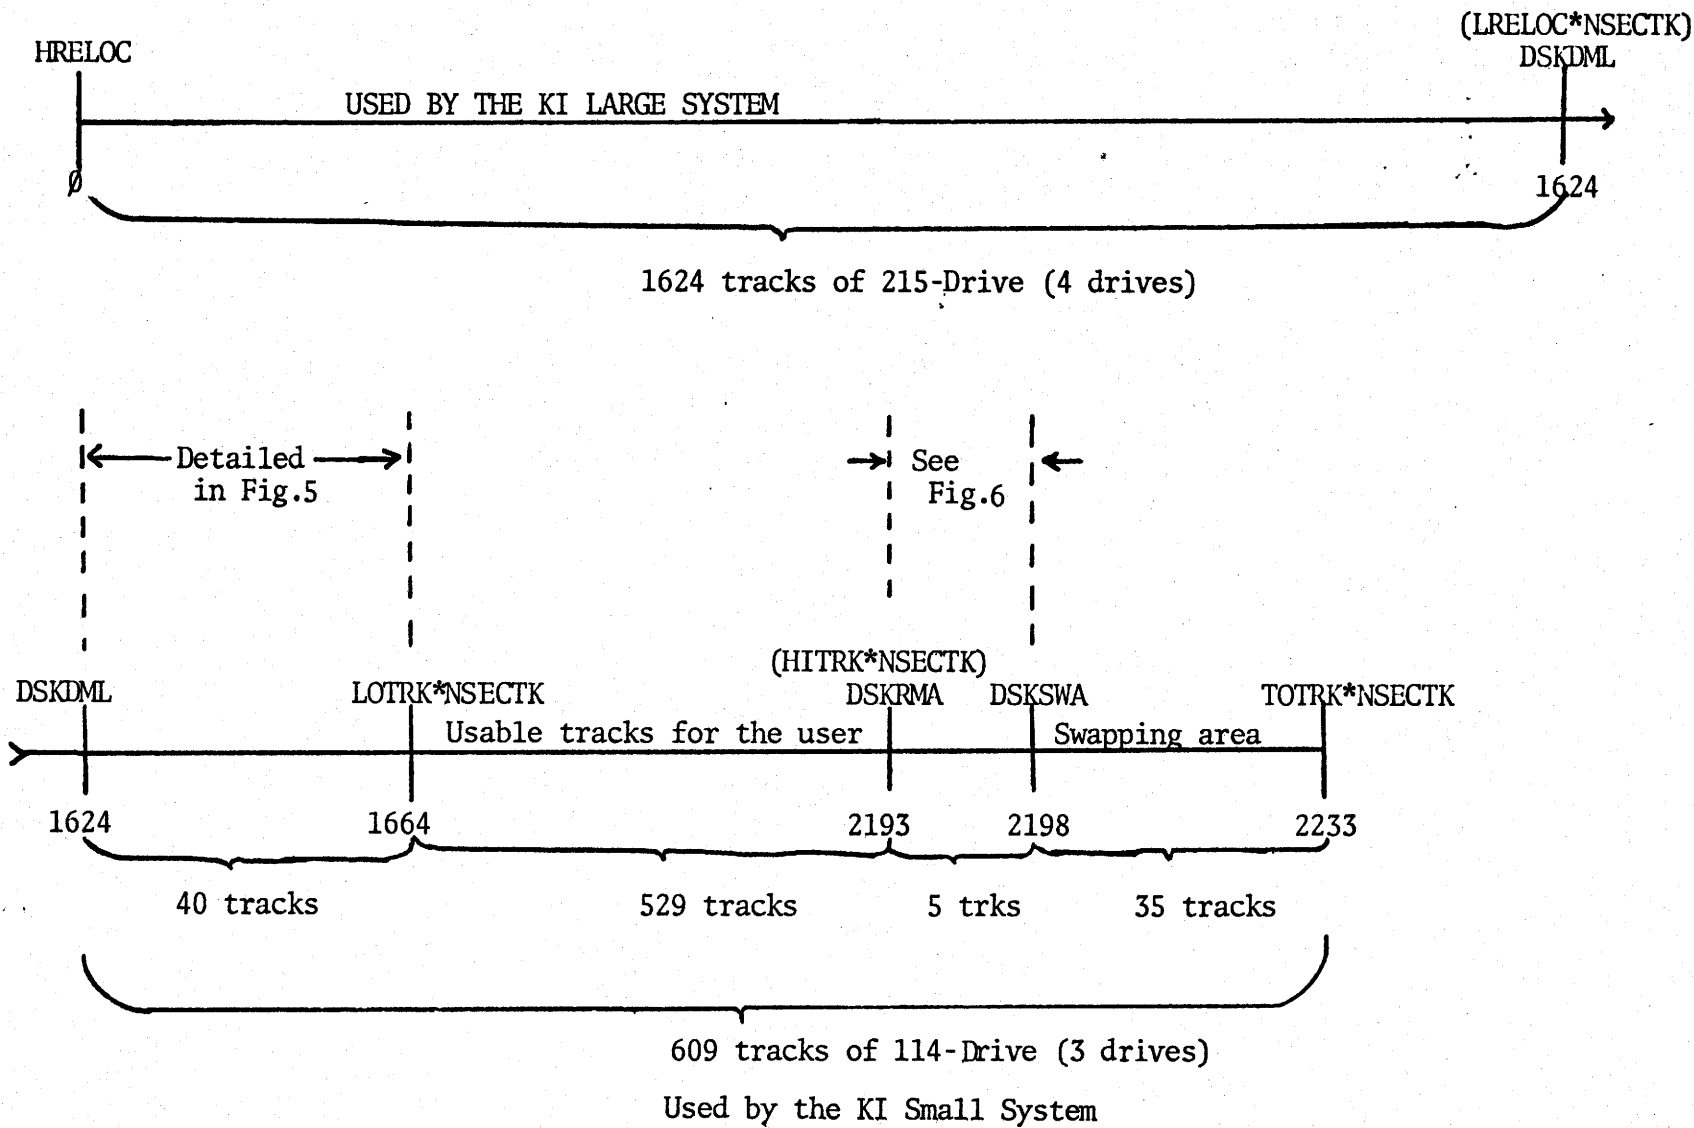
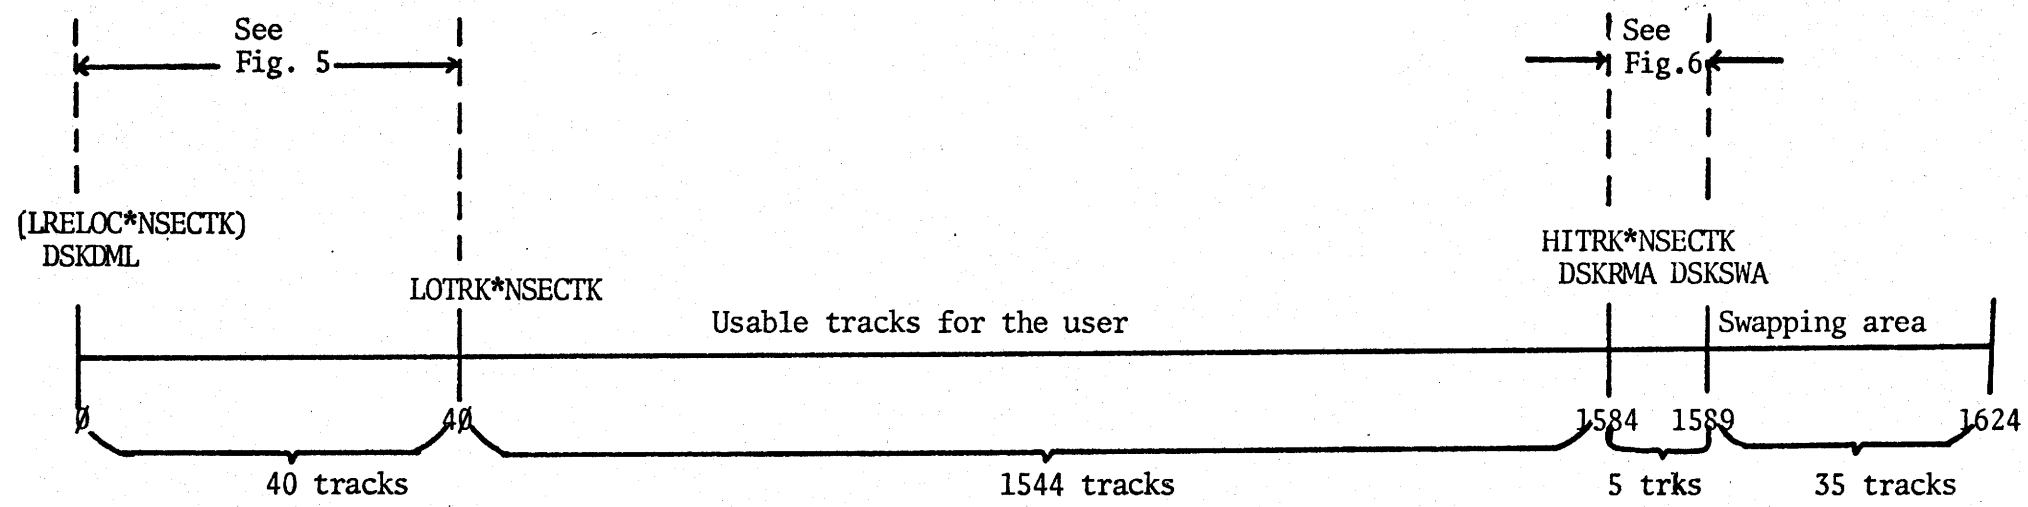

Figure 2: Track Allocation of TENEX Disk for KI Small System
Figure 3: For KI Large System
In TENEX we have two kinds of systems, referred to respectively as the large and small KI systems. These two systems are different only in the disk capacities available to users. (As you will see from Figure 2 and 3, in the large system we have 1544 tracks for the users, and in the small system 529 usable tracks.)
In the ideal case, we have 3 114-Drives for the KI small system, and 4 215-Drives for the KI large system, and every drive is in perfect condition; if this is in fact the case, then the tracks will be allocated as shown in Figure 2 and Figure 3. But in real life, nothing is perfect, so some of the drives may be down. This means all the drives must be reallocable.
- 2) The 40 tracks used for the resident monitor image are assigned as the first 40 tracks of the first up drive, same as Figure 2 and Figure 3.